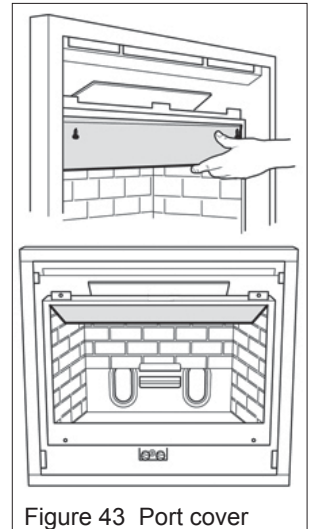

Figure 43 Port cover
3. Remove two screws from under the top front of the firebox. Using these screws fit the port cover. See figure 43.